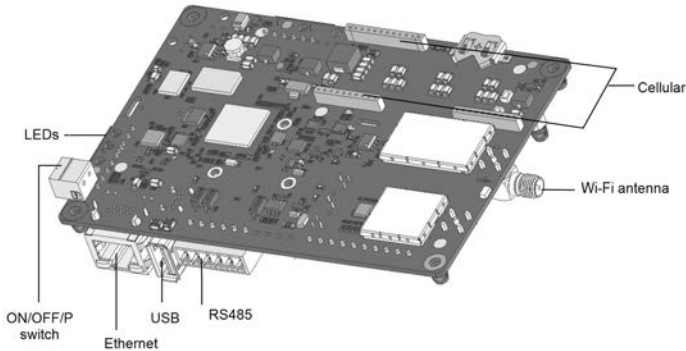

Figure 18: Communication board connectors
- e. Connect the Ethernet connector to the RJ45 port on the communication board (see *Figure 18*).